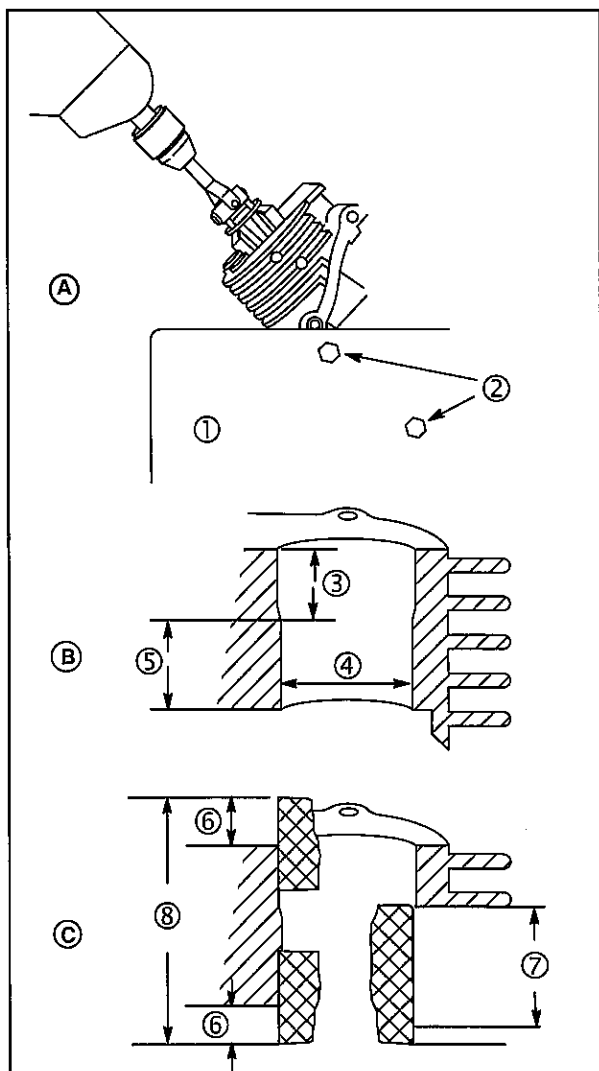

Fig. 3
1. Use crankcase cover mounting screws (2) to fasten cylinder to a honing fixture (1), **Fig. 3 (A)**.
Lubricate hone as recommended by hone manufacturer. The recommended drill speed is **300 – 700 RPM** and **40 - 60 strokes per minute**. Because cylinder bores normally wear only in the area of ring travel (3), the cylinder bore will be round above and below ring travel area, **Fig. 3 (B)**. Start drill and, as hone spins, move it up and down (7) at the bottom of the cylinder bore (4). Gradually increase the length of the strokes until hone travels full length of cylinder bore (8), but no more than **3/4 – 1" (19 – 25 mm)** above or below (6) cylinder bore, **Fig. 3 (C)**. Lubricate hone frequently to prevent build up on stones.